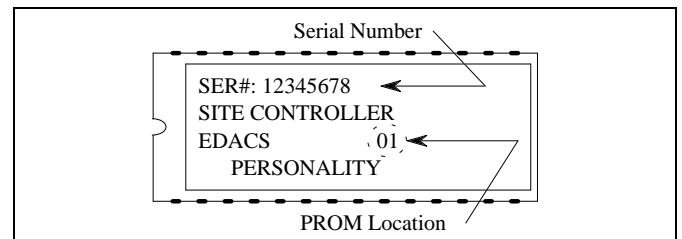

Figure 8 - Personality PROM Label
A typical Personality PROM label is shown in Figure 8. Each PROM in the set must be marked with the same serial number, and the set must contain one PROM for each of the two (2) PROM locations.